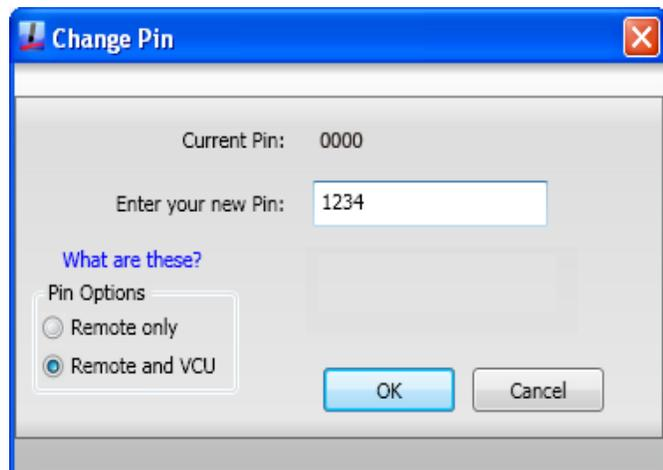

Figure 2.27
(1) **Change PIN** – The current PIN code can be changed as preferred using the Change PIN option. The current PIN code assigned to the site will be indicated in the Change PIN dialog box when opened (Figure 2.27). Type in a different four-digit PIN and select either of the following **PIN Options** as preferred: